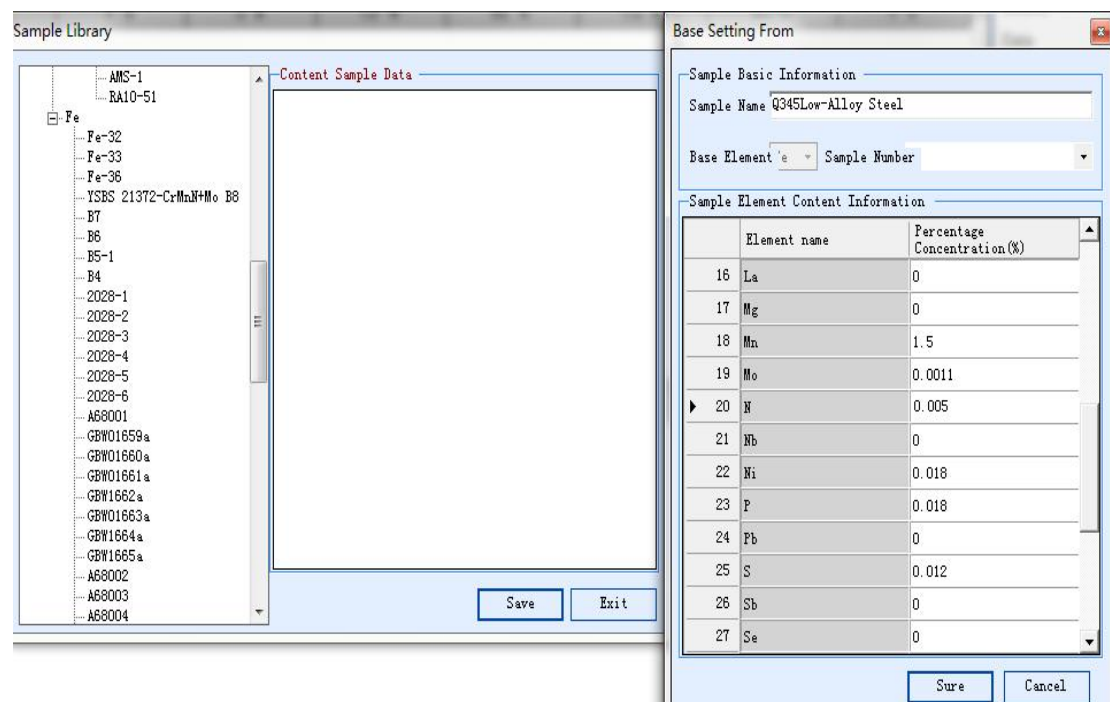

Figure 4-5 Input sample
Step 3 Enter the corresponding sample name and content, then click "save", as shown in Figure 4-5: